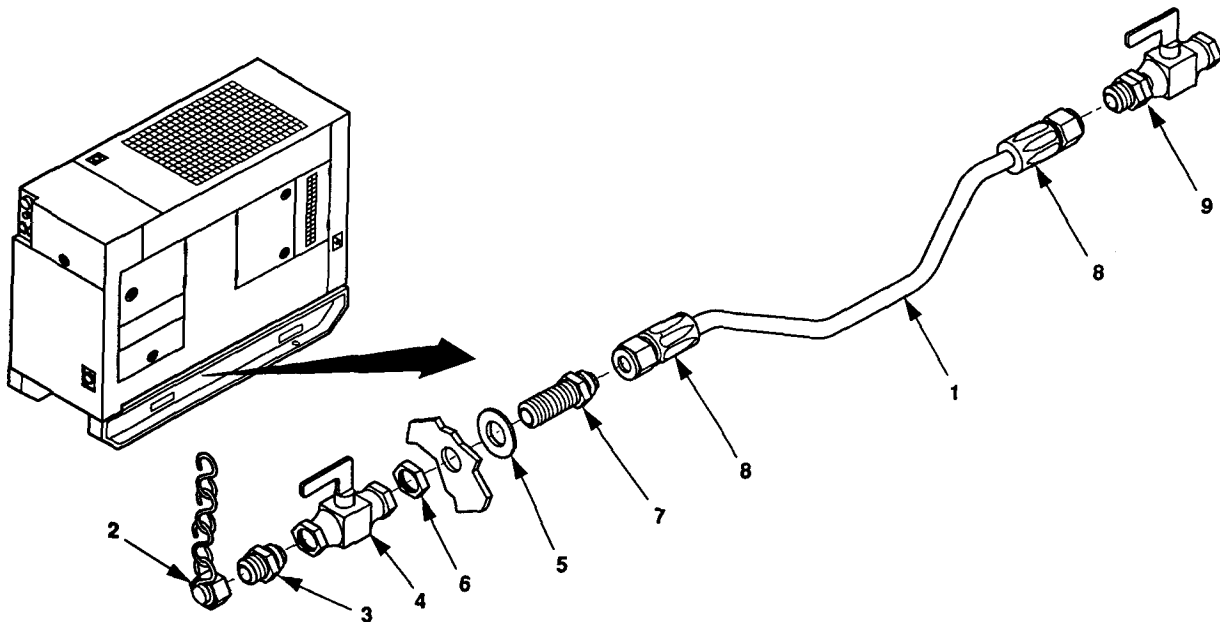

Figure 5-16. Fuel Drain Assembly Replacement.
1. Close drain cock valve (9, figure 5-16) and remove cap (2) from the fuel drain assembly.
3. Disconnect hose fittings (3) from drain cock valve (4).
4. Remove hose assembly (1).
5. Remove drain cock valve (4), retaining nut (6) and flat washer (5) from the tube nipple (7).
6. Remove tube nipple (7).